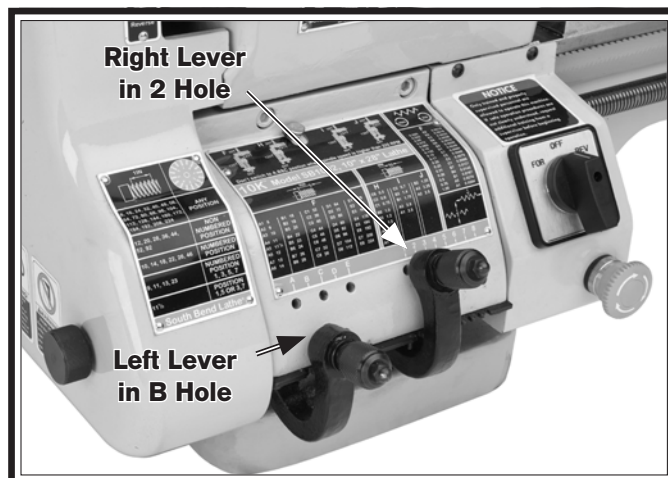

Figure 61. Quick-change gearbox levers set up for 18 TPI inch threading.
- a. Pull out the locking pin on the left gearbox lever as you align it under the **B** printed on the label above it, then move it up and align it with the hole as you release the pin so that it is fully seated (see **Figure 61**).